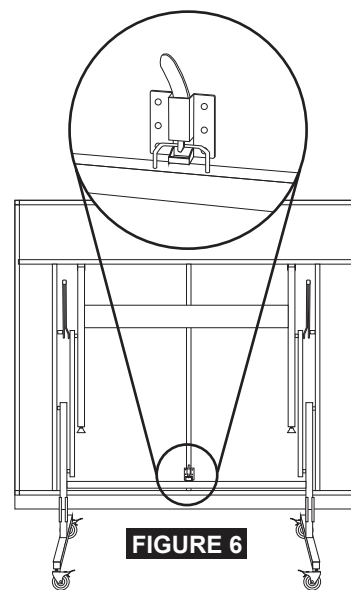

FIGURE 6
3. Secure table fold position using Safety Lock as shown in **FIGURE 6**.